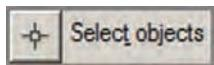

**FIGURE 7.6** Drawing a door
- Click the Rectangle tool in the Draw panel. Snap the first corner at point A, shown in Figure 7.6. Type **@1.5,2'6** (or **@4,75** for metric) and press Enter to complete the door.
- Click to open the Arc pull-down menu on the Draw panel, and select the Center, Start, End tool. Click points A, B, and C, as shown in Figure 7.6, to create the swing.